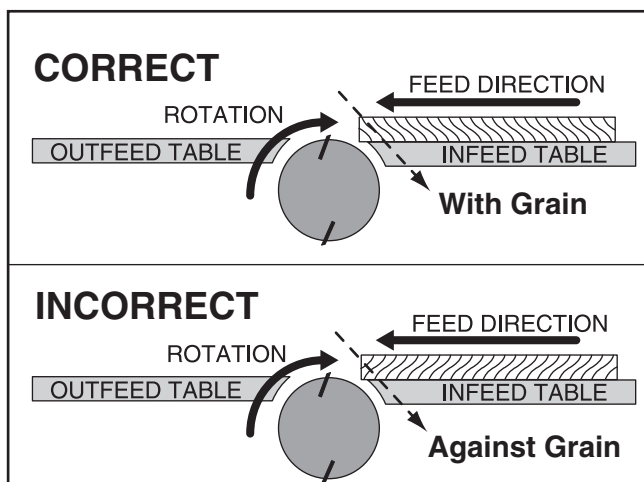
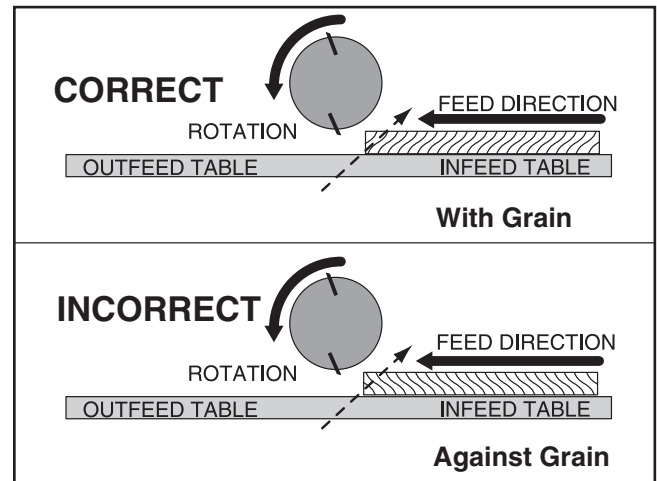

Figure 28. Correct and incorrect grain alignment to cutterhead (jointer).
Figure 29. Correct and incorrect grain alignment to cutterhead (planer).
- **Jointing and surface planing with the grain produces a better finish and is safer for the operator.** Cutting with the grain is described as feeding the stock so the grain points down and toward you on the jointer (Figure 28) or away from you on the planer (Figure 29), as viewed from the edge.